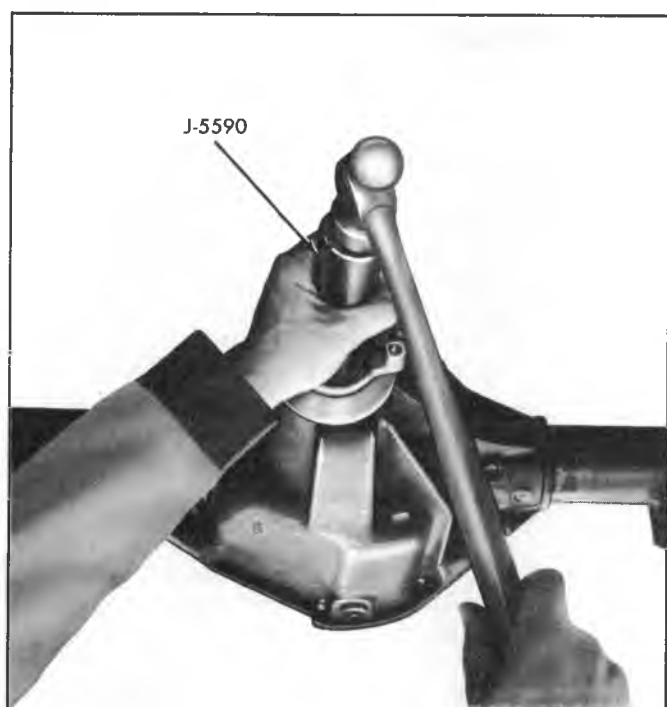

Fig. 10D—Installing Pinion Flange
7. Install shims and outer pinion cone and roller on pinion shaft using Tool J-5590 and companion flange to press bearing onto pinion (Fig. 10D).